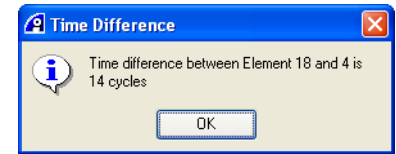

Figure 9-4 Time measurement from selected line dialog box
3. Select **Time Measure from Selected...** from the context menu to display the Prompt dialog box. Figure 9-4 shows an example: